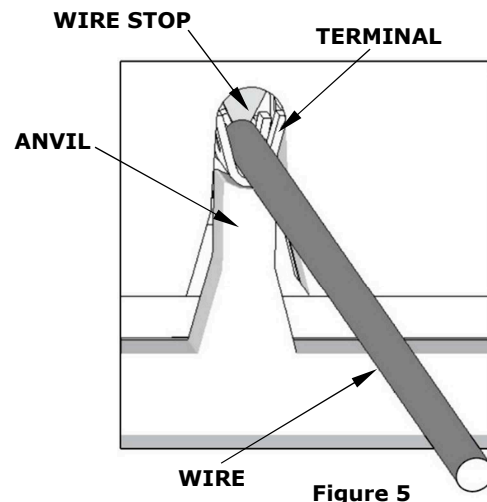
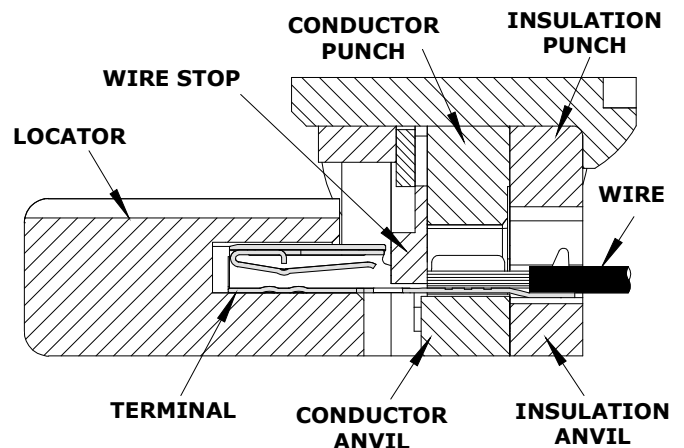

Figure 5
Figure 7
4. Slide the pre-stripped wire into the terminal; make sure to aim the wire brush toward the tip point on the wire stop. See Figure 5. Align the wire so that it is parallel and sitting into the terminal. Maintain a light and constant pressure on the wire that is seated in the terminal at all times. (Do not let go of the wire.) Be sure to hold the wire and terminal in place until the terminal is fully crimped. See Figure 7.